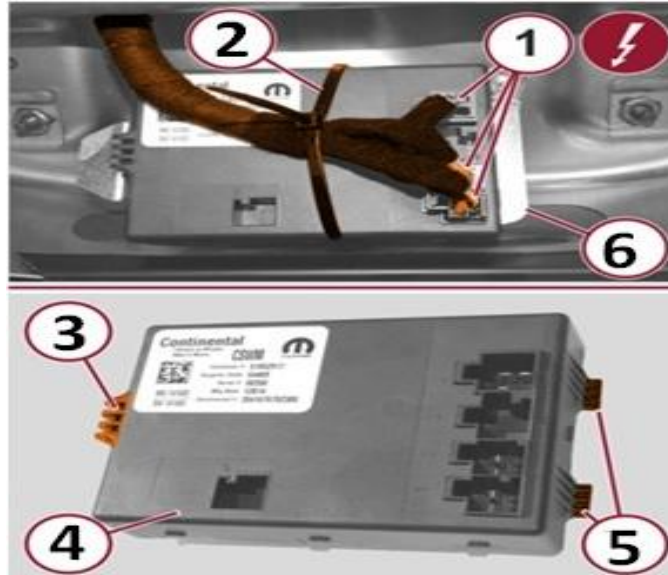

Fig. 1 CSWM Location
3. Cut the tie (2) and press retaining tab (3) to release the CSWM from the bracket, see (Fig. 1).
4. Remove the CSWM (4) from the base of the seat (6), see (Fig. 1).
5. Position the alignment tabs (5) of CSWM to the base of the seat and install the module, see (Fig. 1).
6. Using a new tie strap, secure the CSWM to the base of the seat (6), see (Fig. 1).